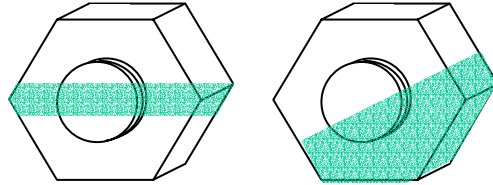

Figure 7. Slippage paint indication.
- iii. Ensure that fastener has not slipped by inspecting the paint indication, see Figure 7. If slippage is indicated, see Section C Refurbishment Procedures.
3. Repaint the fastener slip indicator when necessary. Paint as shown in figure 7.
4. Link retaining fastener. Threaded link retaining fasteners that use a bolt and self-locking nut, may be retightened in accordance with the Table 2, Link Fastener Torque Values. Then paint as shown in figure 7. Other fastener systems shall be sent to the manufacturer to be repair.